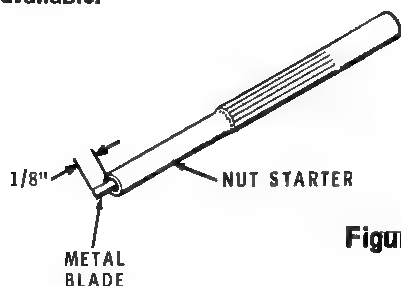

Figure 1A
- () Locate the 1/8" x 1" metal strip. This is the alignment tool tip. With a pair of pliers, insert the tip into the small end of the nut starter so that it extends 1/8" from the end of the starter as shown in Figure 1A. Use this tool for all calibration adjustments.